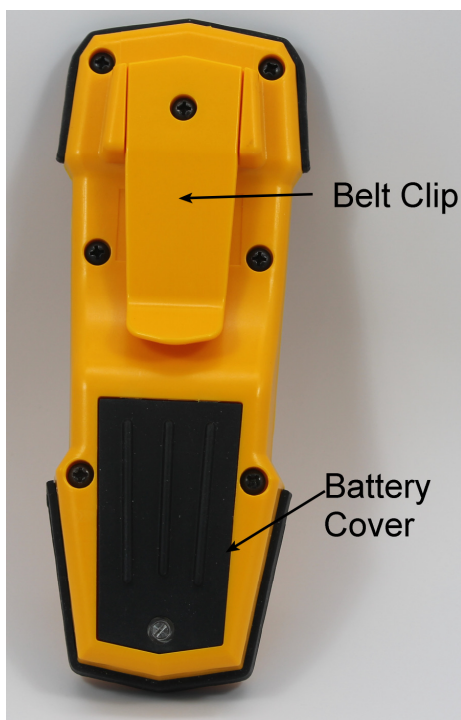

Figure 2: Belt Clip and Battery Cover
- Using a small screwdriver or coin, loosen the battery cover on the back of the remote. Refer to Figure 2 for the location of the battery cover.
- To remove the belt clip, loosen the screw in the belt clip. The belt clip will slide away from the battery compartment. Refer to Figure 2 for the location of the belt clip.